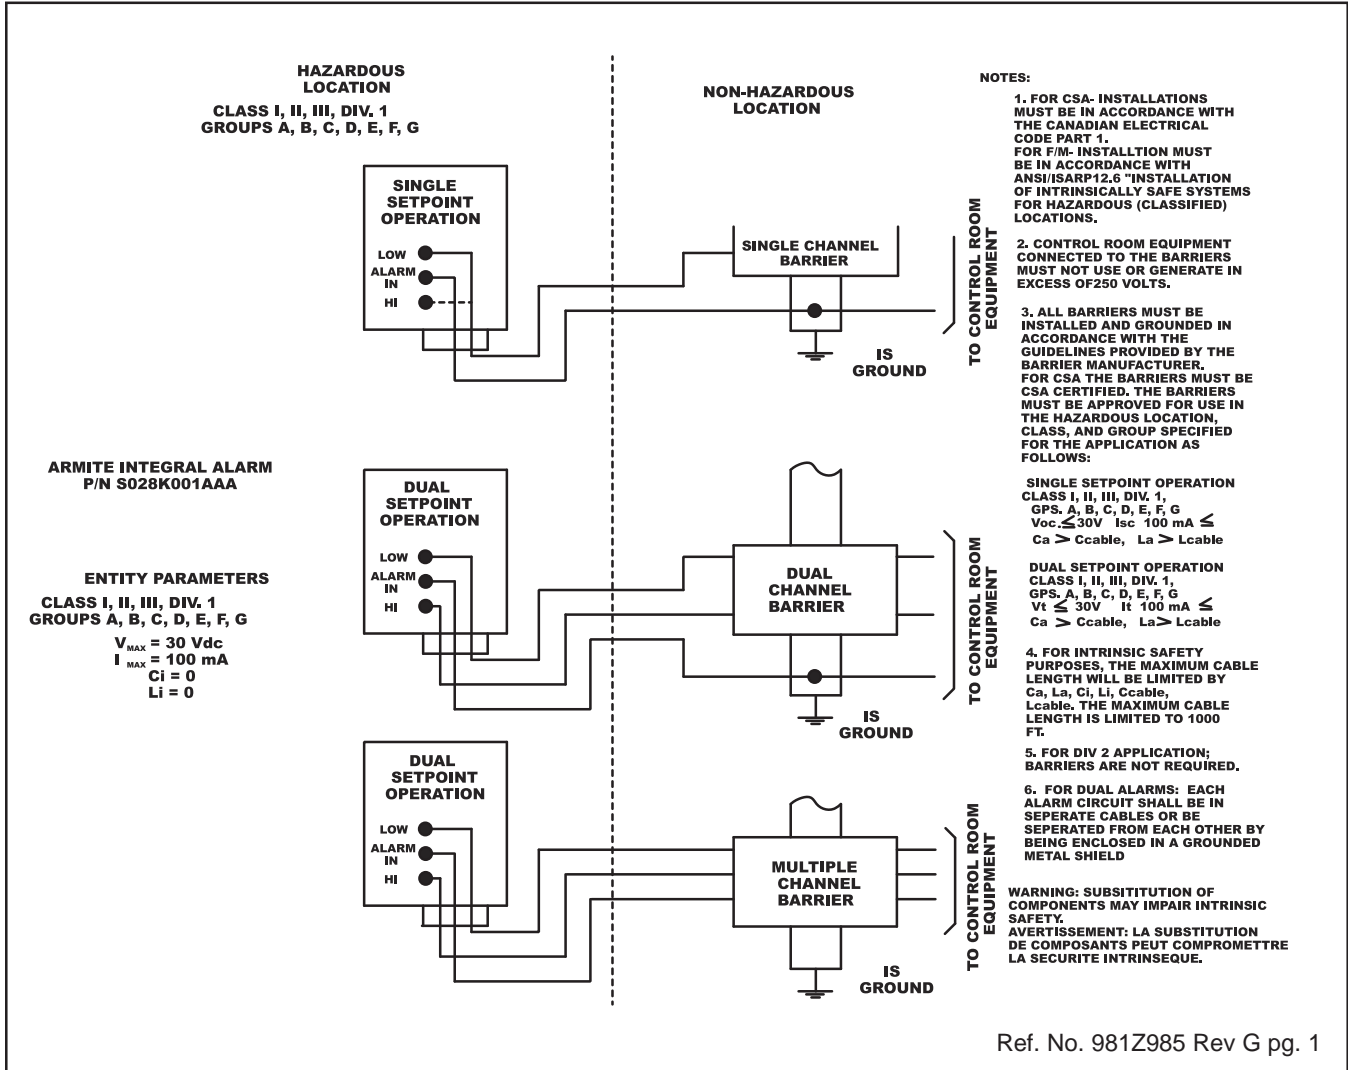

Figure 2-4 Reed Switch Alarm Installation Using IS Barriers.
- B. For Factory Mutual Approved installations and for CSA/NRTL/C Certified installations, refer to Figures 2-4 and 2-5. On the system printed circuit board is a three terminal block marked "Alarm Circuit". The middle terminal is marked "Alarm In". This terminal is common for